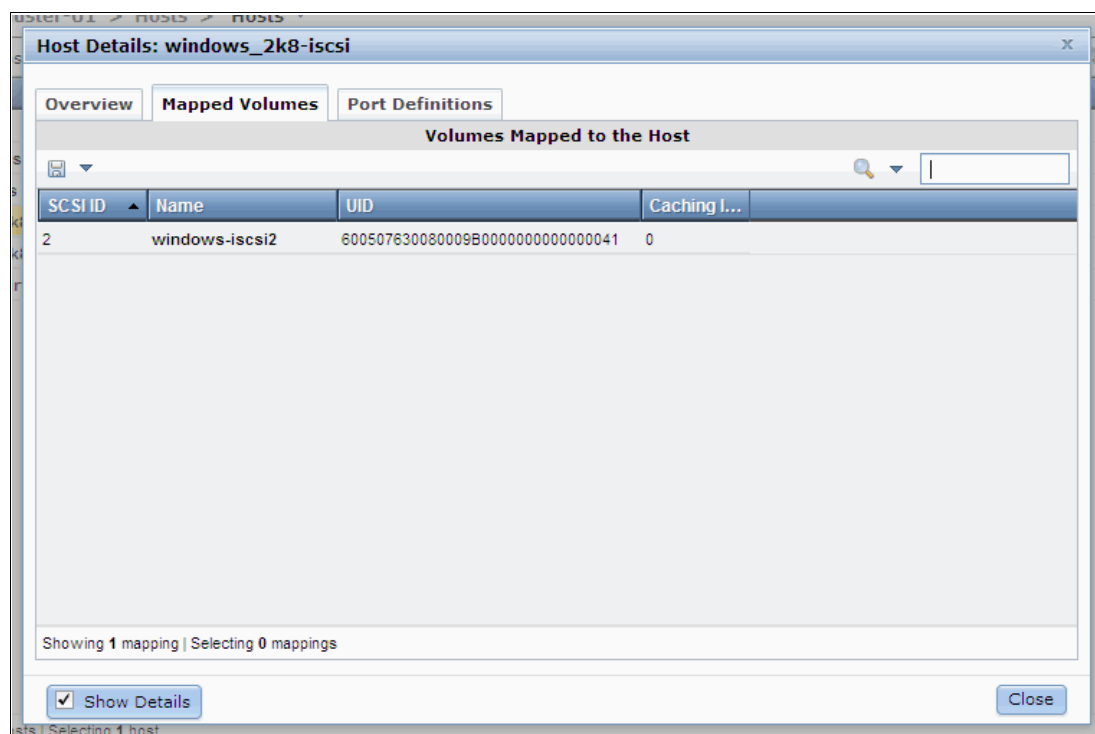

Figure 5-46 Mapped volumes on an iSCSI host
2. Browse to the Mapped Volumes tab, as shown in Figure 5-46.